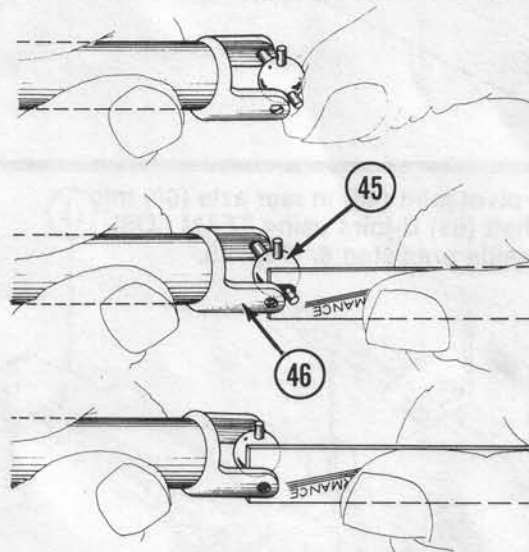

FIG. 17
30. Wedge one end of $3/32"$ x $1/2"$ spirol pin (44) in universal pivot joint (45) into female drive shaft (46) U-joint yoke. Fig. 17.
31. Using rounded end of TEAM LOSI wrench supplied with kit, pry opposite end of $3/32"$ x $1/2"$ spirol pin (44) into other side of female drive shaft (46) U-joint yoke. Fig. 17.
32. Using remaining pins in universal pivot joint (45), repeat steps 30 and 31 to secure the same universal pivot joint (45) to right hand U-joint outdrive (35). Fig. 17.